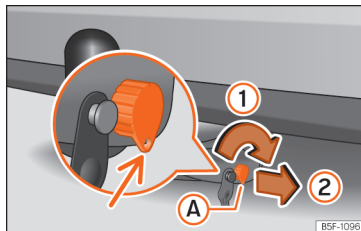
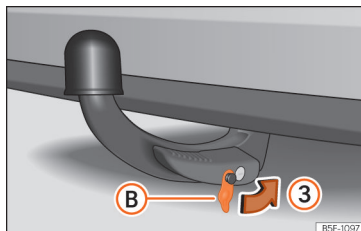

Fig. 268 Locking the lock.
Fig. 269 Placing the cover over the lock.
- Turn key A in the direction of arrow ① until the part of the key with the holes reaches the bottom position » » » Fig. 268.
- Remove the key in the direction of arrow ②.
- Place cover B in the lock in the direction of arrow ③ » » » Fig. 269 » » » ⚠.